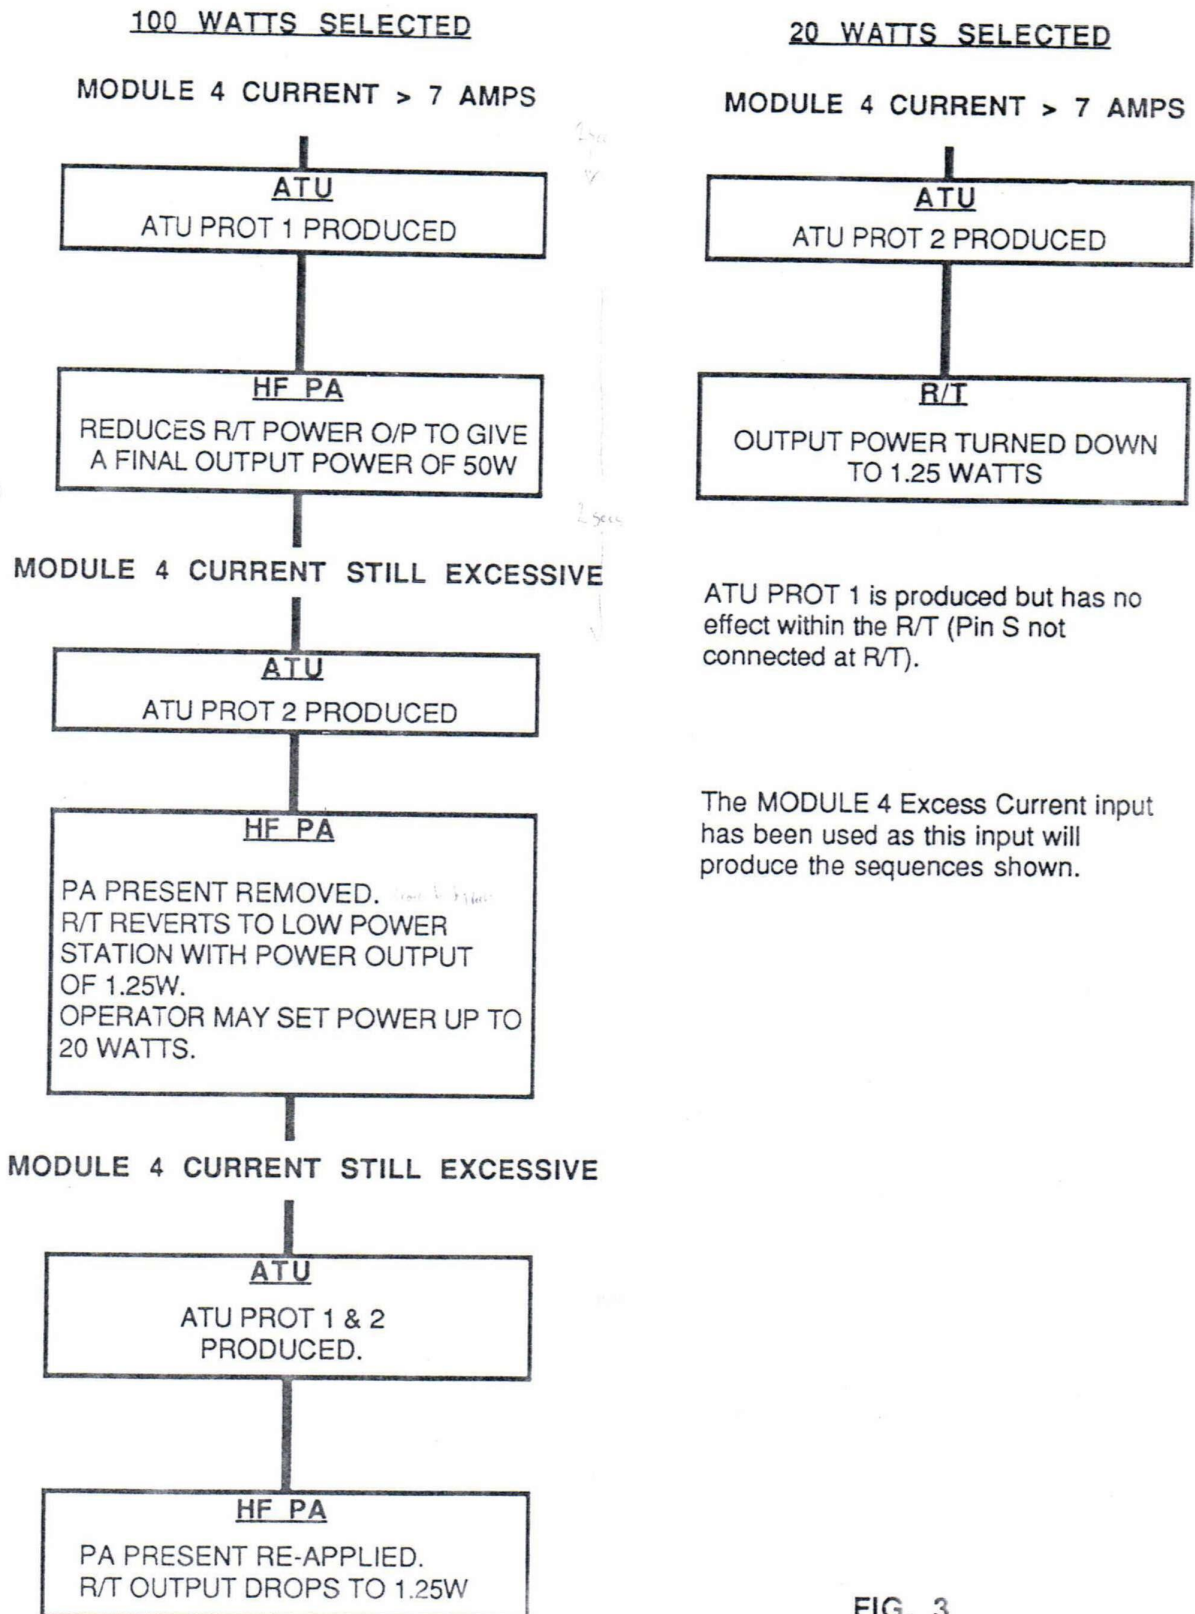

FIG. 3
12. The protection signals ATU PROT 1 and ATU PROT 2 are produced when a fault condition exists which, if prolonged, could damage the ATU. The signals have the effect of lowering the power output of the system in stages, if an HF PA is fitted, or in one step in a low power system. The sequence and effect of the signals is shown in Figure 3.